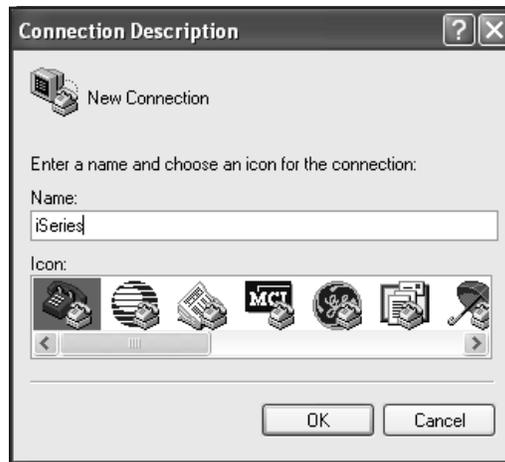

Figure 6 Entering a Connection Name
2. Define an the new connection as “iSeries” as shown in Figure 6.